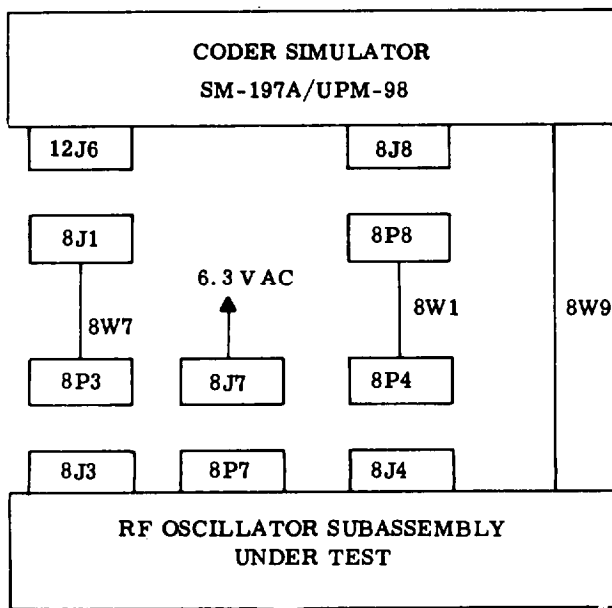

Figure 5-12. RF Oscillator Assembly 8A1, Test Setup
- Step 5. Remove cap (item 1), retainer ring (item 2), and tube 8V2 (item 3). Measure resistance from center contact of capacitor 8C9 (item 49) to ground. It should be infinite.
- Step 6. Measure resistance from center contact of capacitor 8C5 (item 23) to ground. It should be infinite.
- Step 7. Apply 400 vdc between center contact of capacitor 8C5 (item 23) and housing for one minute, then repeat step 6.
- Step 8. Measure resistance between center contact of capacitor 8C5 (item 23) and contact ring (item 7). It should be 15 ohms $\pm 5\%$.
- Step 9. Install tube 8V2 (item 3) and measure resistance from center contact of capacitor 8C9 (item 49) to ground. It should be between 1.5 and 2.5 ohms. Replace retainer ring (item 2) and tube 8V2 (item 3).
- Step 10. Connect rf oscillator assembly to an operating Radar Test Set AN/UPM-98A and external I test equipment as shown in figure 5-12.